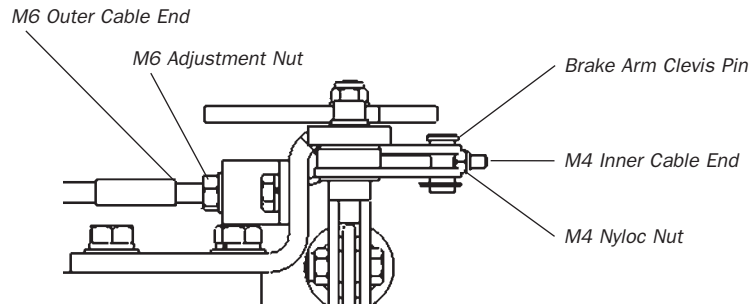

Figure 9.6.4.10 Brake Cable End Fitment
57. Install the M6 Adjustment Nuts and M6 Washers onto the M6 Outer Cable End. See Figure 9.6.4.10.